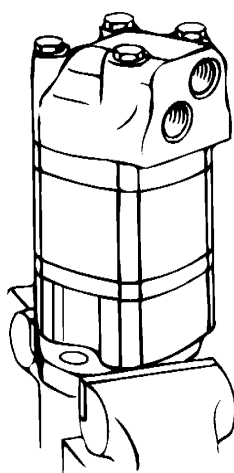

Figure 1
**23** Clamp housing in vise, see Figure 1.